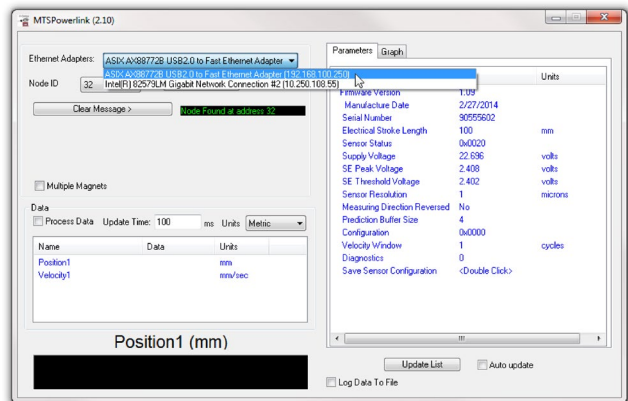

Fig. 51: Choose ethernet adapter
1. Start the MTS Powerlink software (download at [www.mtssensors.com](http://www.mtssensors.com)). Choose the correct ethernet adapter from the drop-down menu (Fig. 51).